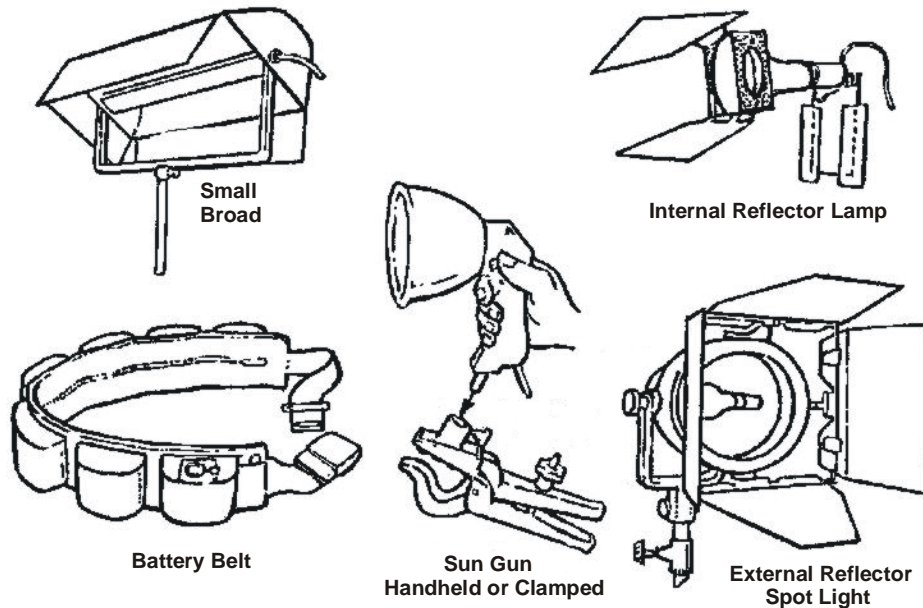

Figure I-22. Portable Lighting
h. Basic portable lighting kits will vary greatly. The lighting kit used at the school where the Combat Documentation/Production Specialist course is taught, consists of three 1,000-watt lamps, one 750-watt sun gun, three stands, barn doors and scrims for each lamp, extra bulbs, and extension cables. Figure I-22 is an example of some typical lights/accessories that are usually found in portable lighting kits.